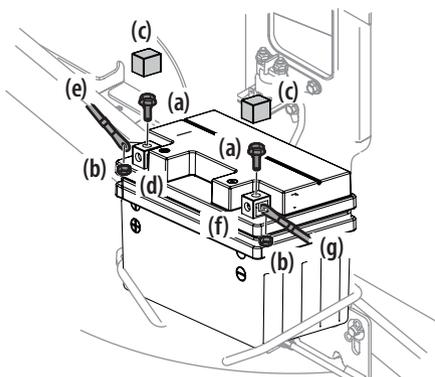

Figure 17
1. Remove the factory installed hex bolts (a) and nuts (b) located on the end of the wiring harness. Retain the hardware for later instructions. See Figure 17.
2. Remove the plastic cover (c), if present, from the positive battery terminal (d) and attach the red cable (e) to the positive battery terminal (d) with one of the hex bolts (a) and nuts (b), removed in Step 1. Use a Philips screw driver. See Figure 17.
3. Remove the plastic cover (c), if present, from the negative battery terminal (f) and attach the black cable (g) to the negative battery terminal (f) with the remaining hex bolt (a) and nut (b). See Figure 17.